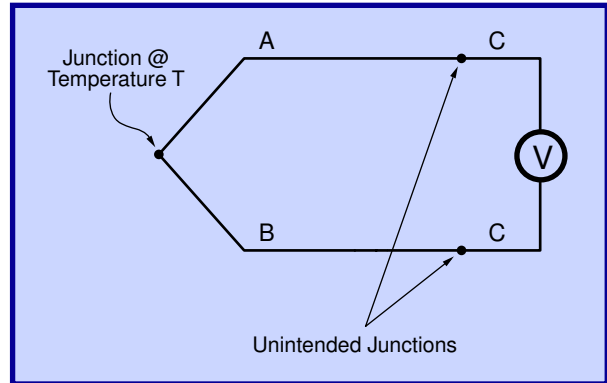

Fig. 2 Additional junctions
A problem arises when measuring the voltage across a dissimilar metal junction—two additional thermocouple junctions form where the wires connect to the voltmeter (Fig. 2). If the wire leads which connect to the voltmeter are made of alloy "C", then there exist thermal EMFs at the A–C and
The second approach to the problem relies on the fact that the voltage across the junction A-C plus the voltage across the junction C-B is the same as the voltage across a junction of A-B. As long as all the junctions are at the same temperature, the presence of an intermediate metal (C) has no effect. This allows us to correct for the voltage seen by the voltmeter in Figure 2 by measuring the temperature at the A-C and B-C junctions, and subtracting the voltage which we would expect for an A-B junction (at the measured temperature). In the SR630, the temperature of the A-C and C-B junctions is measured with a low-cost, high-resolution semiconductor detector, and the subtracted voltage is the tabulated voltage of the A-B thermocouple at the measured temperature of the A-C and C-B junctions. The advantage of this method is that any type thermocouple may be used without having to change compensation junctions or maintain ice baths.